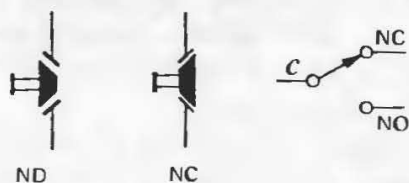

Figure 1.99. Momentary-contact (push-button) switches.
**Push-button switches.** Push-button switches are useful for momentary-contact applications; they are drawn schematically as shown in Figure 1.99 (NO and NC mean normally open and normally closed). For SPDT momentary-contact switches, the terminals must be labeled NO and NC, whereas for SPST types the symbol is self-explanatory. Momentary-contact switches are always "break before make." In the electrical (as opposed to electronic) industry, the terms form A, form B, and form C are used to mean SPST (NO), SPST (NC), and SPDT, respectively.